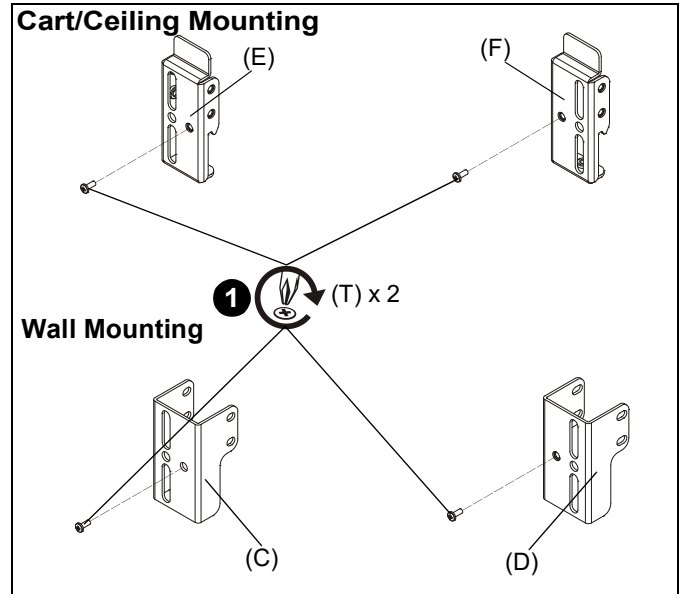

Figure 18
1. Insert two 10-24 x 1/2" Phillips pan head screws (T) into speaker interfaces (E and F) [Cart/Ceiling Mounting] or wall speaker interfaces (C and D) [Wall Mounting] and hang speaker on screws. (See Figure 18)